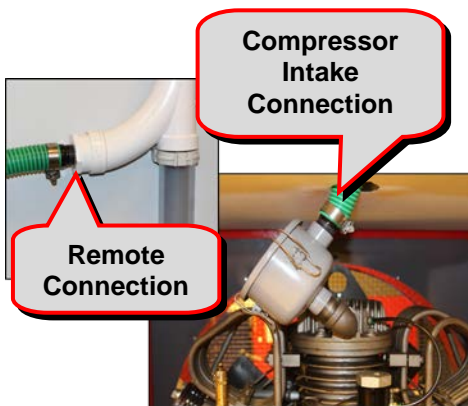

Figure 4.7-1: Flexible Hose Clamps
1. Inspect the flexible intake hose clamps. If required use a flat blade screwdriver to tighten the clamps. See Figure 4.7-1.